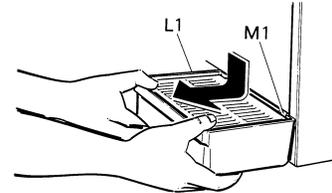

FIGURE 28
36. Remove the drip tray (L1) by rotating it slightly and pulling it outwards (FIGURE 28). Wash all the parts carefully and reassemble it by following the prior operations, remembering to re-insert the condensation discharge pipe (M1) in its seating.